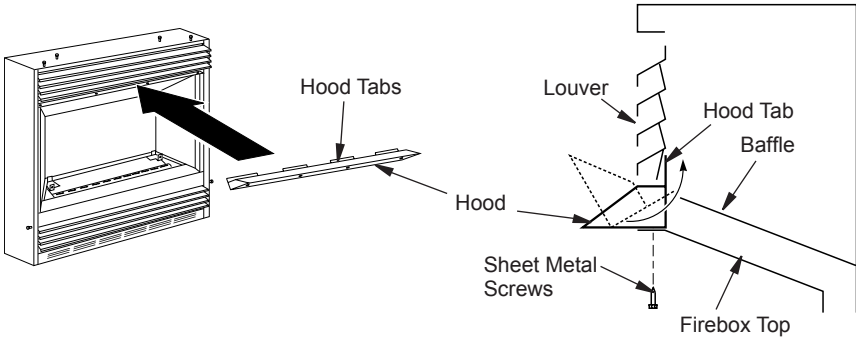

Figure 3 - Assembling Hood
5. Rotate hood as shown in Figure 3. Make sure hood tabs point toward fireplace.
6. Insert hood tabs between baffle and louvers (see Figure 3, page 6).
7. Gently rotate hood to upright position. Make sure hood tabs are behind louvers and hood is resting on firebox top (see Figure 3.).
9. Insert screws as shown in Figure 3, page 6. Tighten screws firmly.